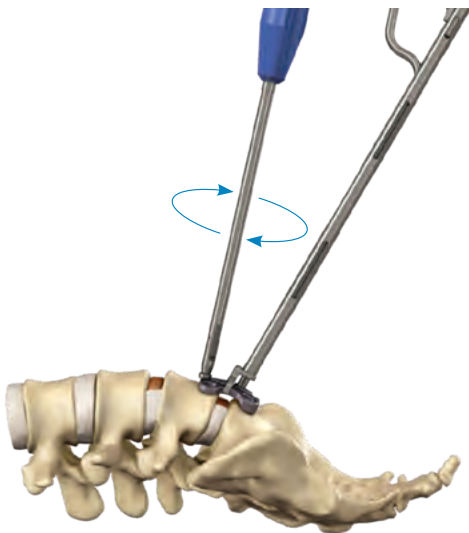

Figure 11:
- Rotate the pin inserter clockwise to advance the pin into the vertebra (Figure 11).